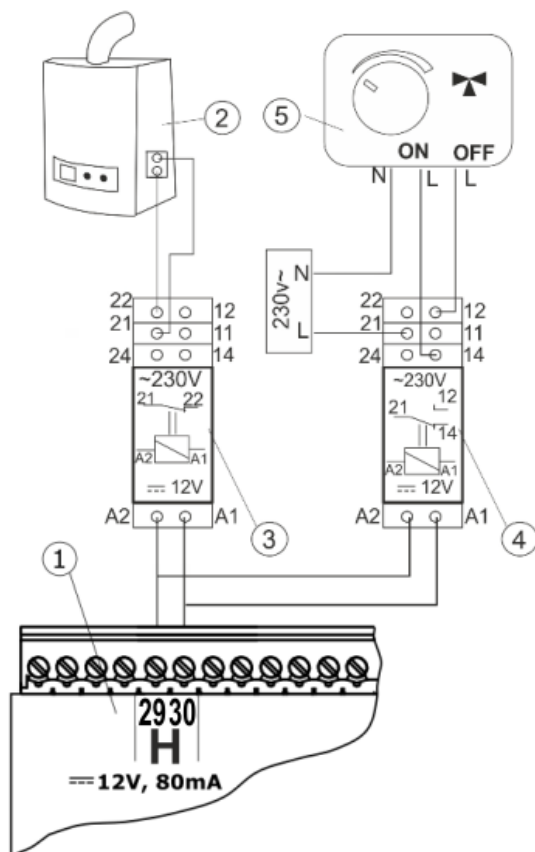

Figure 18. Electrical connection of the backup boiler and switching valve, where:
*It is possible to connect a three-way switching valve that separates the heating circuit and DHW from the pellet boiler to prevent its heating – see figures 18 and 19.*